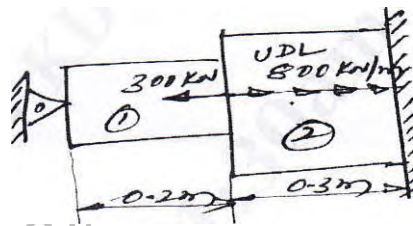

Fig.Q3(b)
- b. Find the nodal displacement stress and reaction for the bar subjected to load as shown in Fig.Q3(b)_ Take $E_1 = 70 \text{ GPa}$ and $E_2 = 200 \text{ GPa}$. (10 Marks)